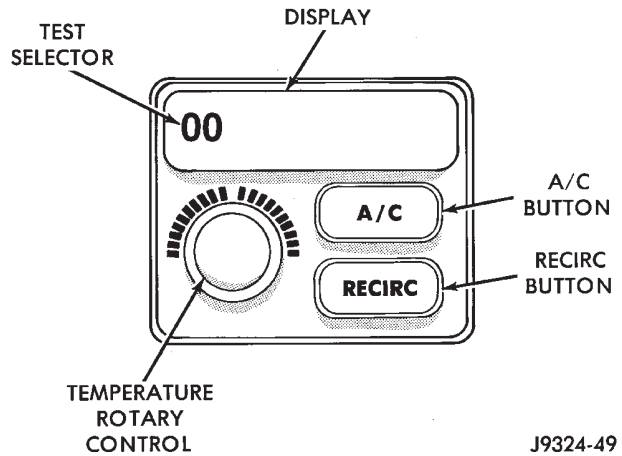

Fig. 17 Return to Select Test Mode
(6) At any time during the self-diagnostic tests, you may return to the Select Test mode by turning the temperature rotary control one click in either direction. Again, the stick man and arrows are not shown in the Select Test mode. At this point, you have the option of monitoring or testing another circuit (Fig. 17).